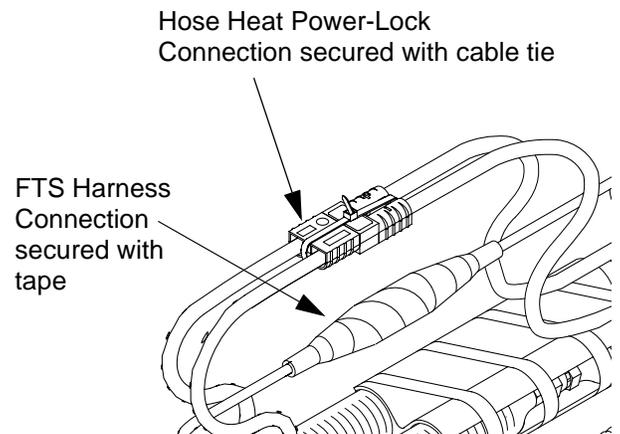

FIG. 15: Hose Connection (steps e and f)
- e. Connect FTS harness plugs. To ensure a secure electrical connection, place protective isolator boot over each plug and tape together. See FIG. 15.
- f. Plug Power-Lock™ hose heat connectors. Secure connection with cable tie provided; failure to do so will disrupt hose heat system if connectors separate. See FIG. 15.